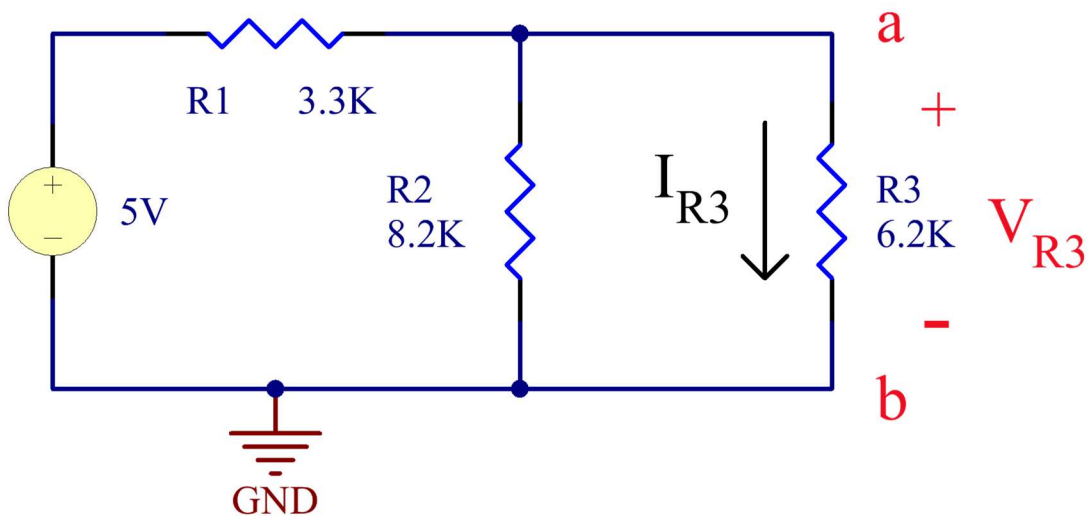
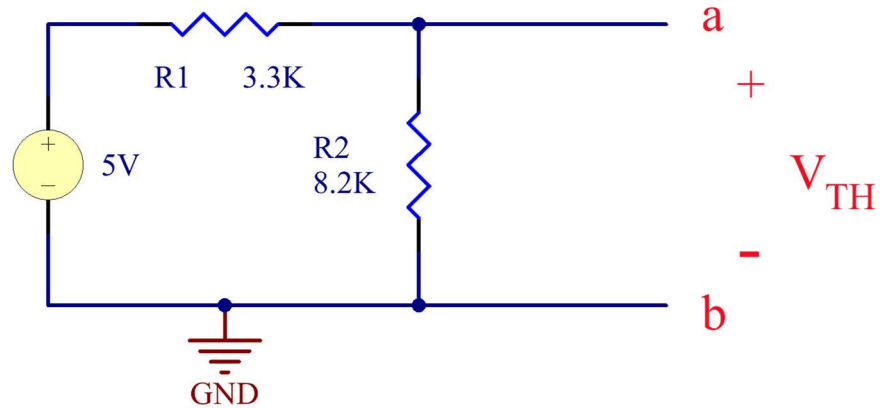
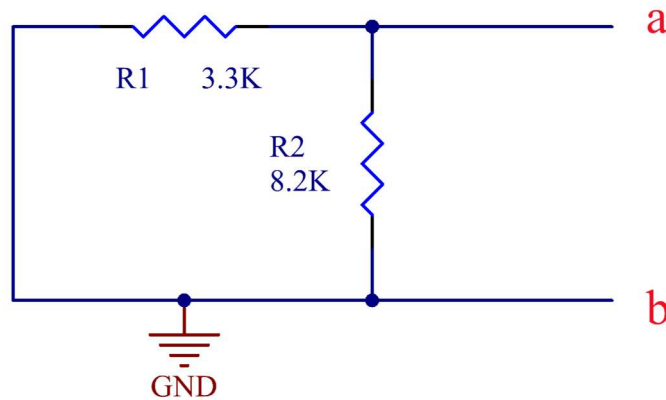

Figure 5
Figure 6
Figure 7
We will run through 12 steps to use Thevenin's theorem to find the current through R3 shown in Fig. 5.
c. Build the circuit as shown in Figure 5.
- a. Referring to Fig. 6, which is Fig. 5 with R3 removed, calculate V_{TH} for Fig.6, **showing/describing all work.**
- c. Verify the real Thevenin equivalent voltage by measurement. Construct the circuit shown in Fig.6. Measure and record V_{TH} .
- a. Construct the circuit in Fig. 7, which is the circuit in Fig. 5 with R_3 removed and the 5V source replaced by a short circuit (R_{SOURCE} assumed 0).
- b. Calculate R_{TH} in Fig. 7, **showing/demonstrating all work.**
- c. Verify your R_{TH} calculation by measurement. Connect the circuit in Fig. 7. Measure and record the equivalent resistance (R_{TH}) measured between terminals A and B.